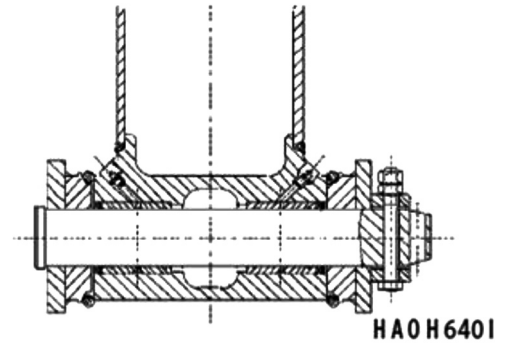

Fig 8
6. If the specific weight of electrolytes level of the battery drops to be less than 1.18kg/L, you should immediately charge the battery to prevent the acidulation of the pole plate. After first charging of the newly used battery, it is better to discharge the battery at a rate of 10 hours discharge rate, then continue the charge to make the battery fully play its role and output adequate capacity. So far as 2506-1104 battery used in this machine, you should judge the status of the battery regularly according to the gravimeter color, as shown in Fig.8: